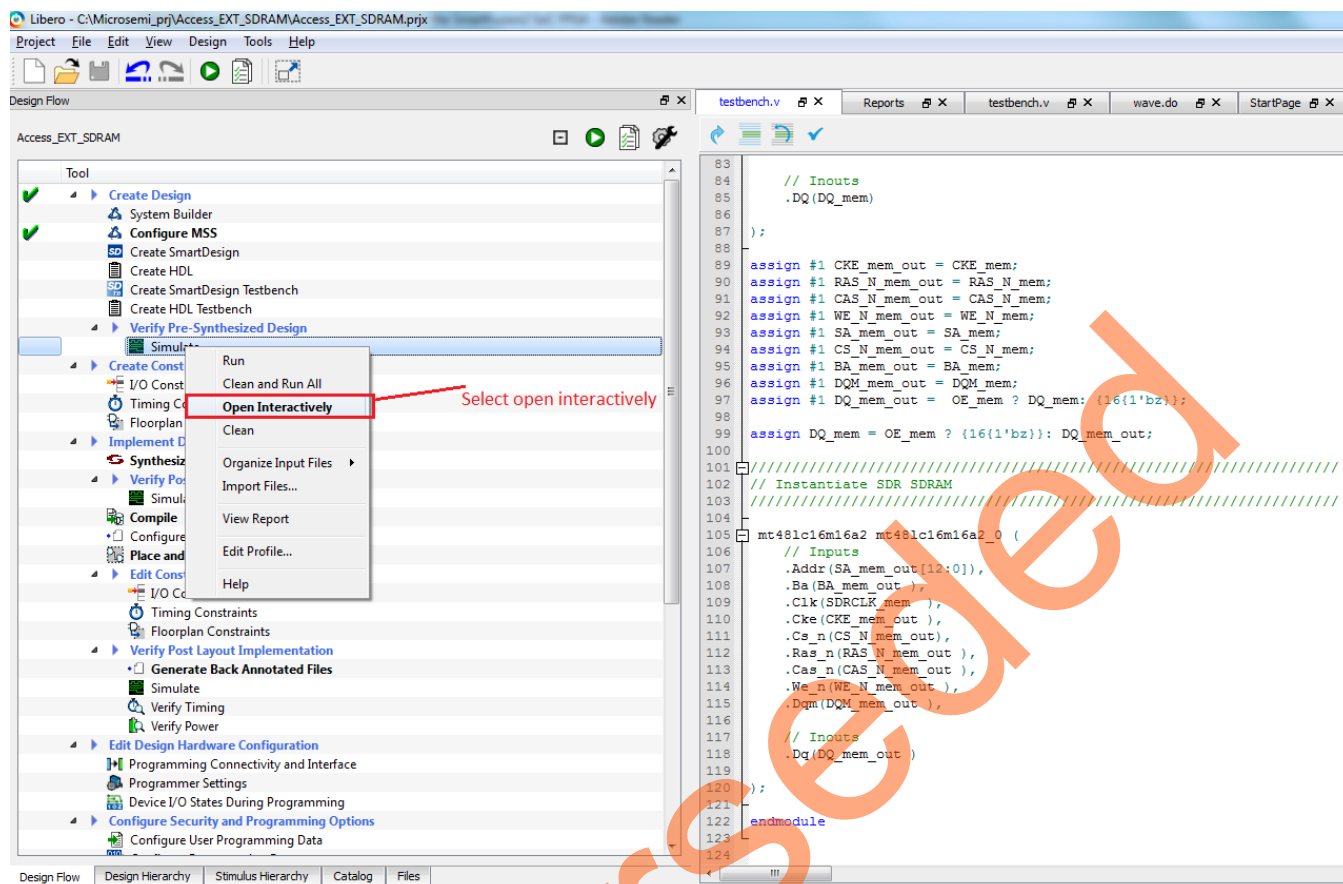

Figure 36. Invoke ModelSim
- After specifying the testbench stimulus file, expand the **Verify Pre-Synthesized Design** option, select the **Simulate** option under it, right-click and select **Open Interactively** to invoke ModelSim, as shown in Figure 36. ModelSim is invoked and the design is loaded.